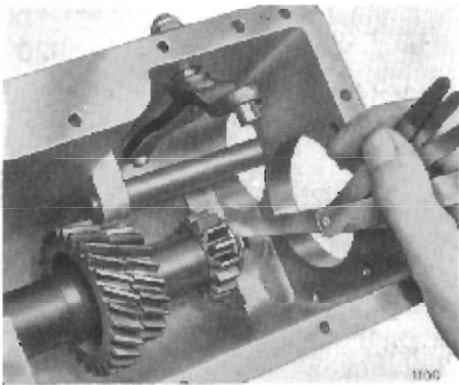

Fig. 30.
Using feeler gauges inserted between the rear fixed thrust washer (115) and the adjacent rotating washer (116) measure the gear end-float as shown on Fig. 30.